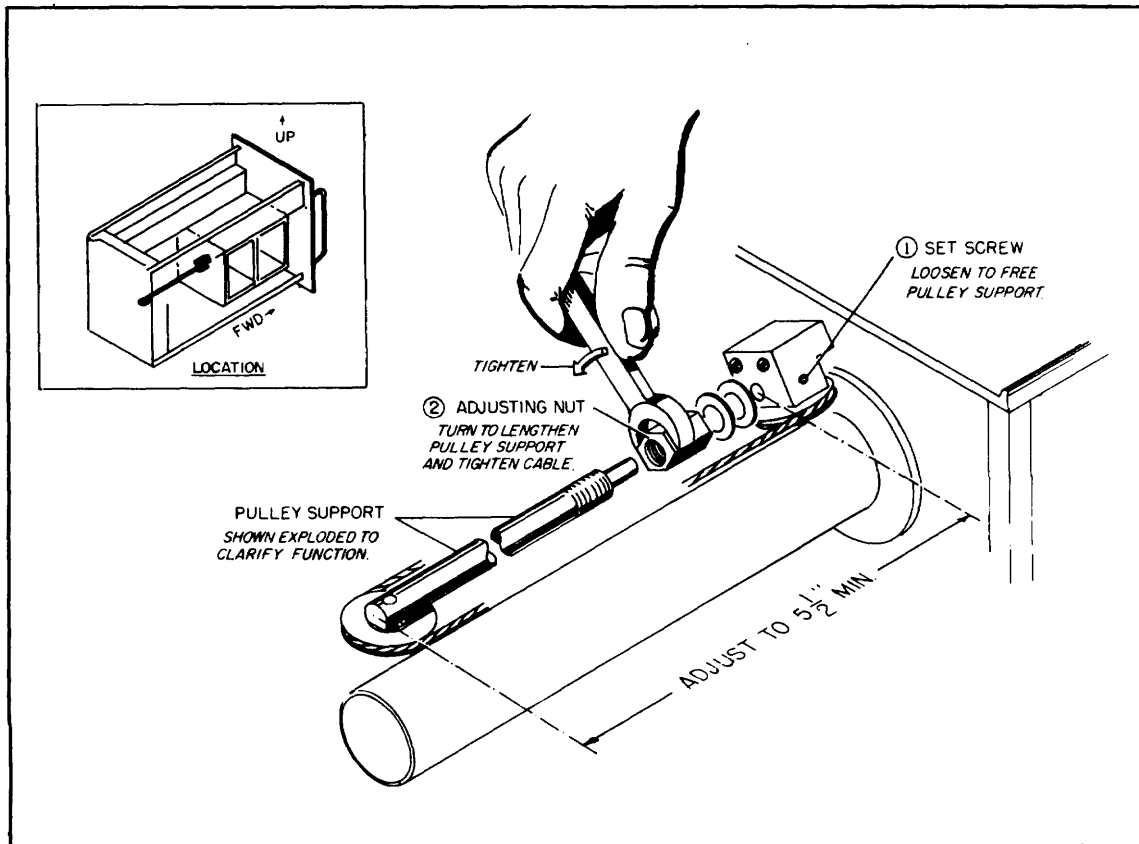

Figure 6-5. Diagram Showing Adjustment of Cable Tension for Output Attenuator Drive System
rear pulley (see Figure 6-5). The shaft is threaded a short distance at the seating end and the depth of seating is determined by the position of the nut on the shaft. The nut is forced against the mounting block face by the tightness of the drive cable and an Allen set screw, when tightened in the mounting block, prevents the shaft from turning. If, due to physical damage or wear, the cable must be replaced, a new cable of the same type should be obtained and installed as instructed below. It is possible with care, to replace the cable so that a minimum of recalibration will be necessary. To replace the attenuator drive cable, proceed as follows:
- Referring to Figure 6-5, measure and note the exact distance from face of mounting block to end of rear pulley support shaft.